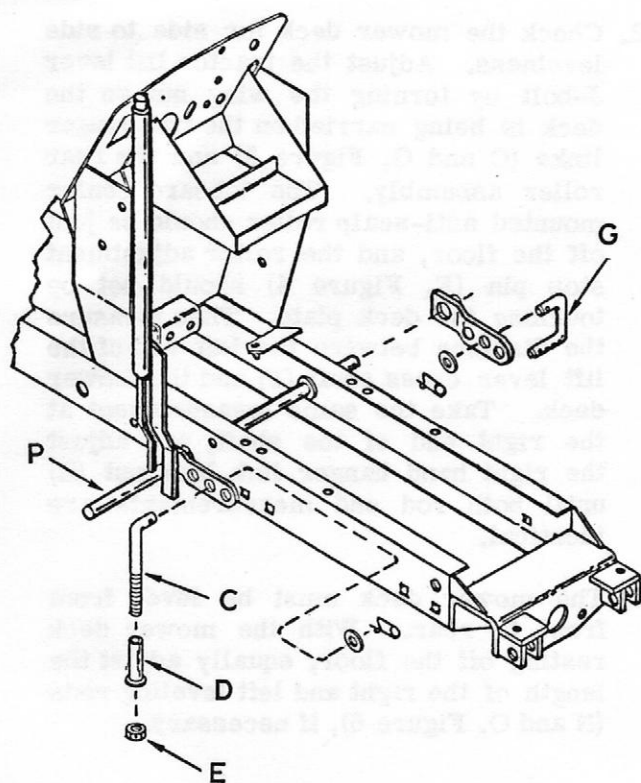
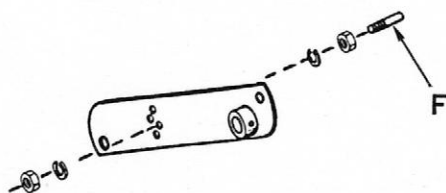

Figure 3. Lift Lever Linkage
Figure 4. Roller Height Adjustment Stop
4. For shipping purposes the "L" shaped, right hand hanger link (C, Figure 3) is installed with the drilled end through the mower deck attaching bracket. Remove this rod, insert the shoulder bushing (D) up through the slotted hole in same deck attaching bracket and place the threaded end of the rod down through the bushing. Turn the lock nut (E) part way on to hold the rod in position until further adjusted as covered in paragraph 12.
5. The roller adjustment stop pin (F, Figure 4) is factory installed in the second from the bottom hole of the left roller pivot arm. This location provides roller to ground engagement for mowing height up to two inches. If a different maximum cutting height adjustment is desired, refer to paragraph 4 under "Adjustments" for proper mounting hole and relocate the stop rod accordingly. Refer to "Adjustments" for further explanation on the roller adjustment stop pin.
7. Connect the "L" shaped and "U" shaped hanger links (C and G, Figure 3) to the center holes in the tractor lift lever arms and secure with plain washers and safety pins furnished.
11. Check the belt tension on either side, midway between the idler pulleys and deck pulley. Recommended tension is approximately 5 pounds at $3/8$ " deflection. Turn the adjusting nut (M) further on or off the adjusting rod as necessary to obtain proper belt tension.
12. Check the mower deck for side to side levelness. Adjust the tractor lift lever J-bolt by turning the wing nut so the deck is being carried on the two hanger links (C and G, Figure 3) and the rear roller assembly. The inboard center mounted anti-scalp roller should be just off the floor, and the roller adjustment stop pin (F, Figure 4) should not be touching the deck plate. Then measure the distance between the left end of the lift lever cross shaft (P) and the mower deck. Take the same measurement at the right end of the shaft, and adjust the right hand hanger link lock nut (E) until both rod end measurements are identical.
2. Deck "Level" - Side to Side. To check for side to side levelness, the mower deck must be set at normal cutting height and be fully supported by the two hanger links (C and G, Figure 3) and the rear roller assembly. The inboard center mounted anti-scalp roller should be just off the floor, and the roller adjustment stop pin (F, Figure 4) should not be touching the deck plate. Then measure the distance between the left end of the lift lever cross shaft (P, Figure 3) and the mower deck. Take the same measurement at the right end of the shaft and adjust the right hand hanger link lock nut (E) until both rod end measurements are identical.
4. Roller Adjustments. There are four mounting holes in the left roller pivot arm. The roller adjustment stop pin is installed in the second from the bottom hole in the pivot arm. The implement lift lever wing nut should be adjusted so the stop pin (F, Figure 4) contacts the deck plate. This will provide a cutting height of up to 2" before the stop pin contacts the deck plate. Above this cutting height, the stop pin will come in contact with the deck plate and raise the roller assembly off the ground.
4. Roller Adjustments (Cont'd). Although four hole settings are provided for the stop pin (F, Figure 4), only the upper three are used for normal mowing conditions. The factory setting at the second from the bottom hole will provide roller ground contact at most commonly used lawn mowing heights and also provide adequate ground clearance while in the transport position. The bottom hole setting is not intended to be used on mowers mounted on the Model 195 Compact Tractor.